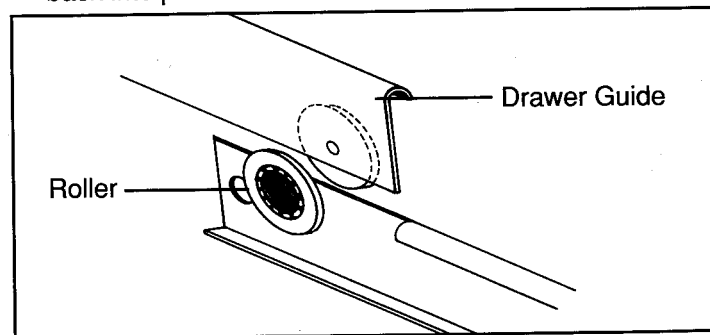

Figure 2
1. Place the set of rollers on the drawer behind the set of rollers on the oven. (As shown in Figure 2)